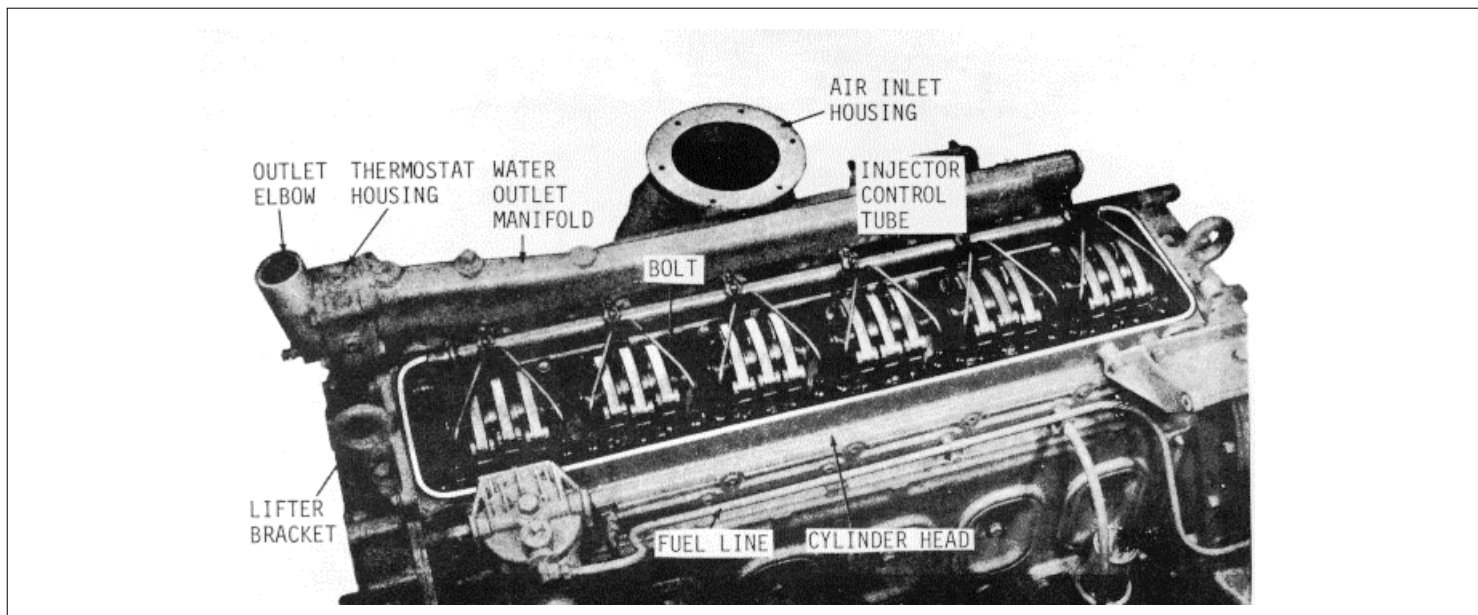
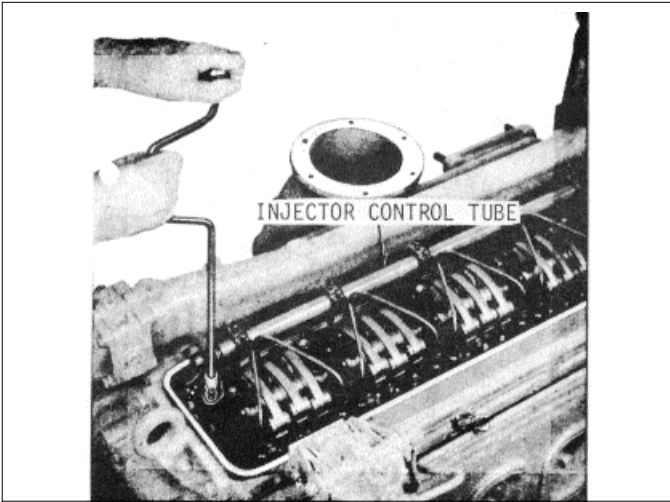

Fig. 2
Fig. 6
- (1) Affix a new gasket to each end of the cylinder block, using a non-hardening gasket cement. Also apply an even coating of gasket cement to the outer surface of each gasket (the surface next to the end plate).
- (2) Use guide studs J 1927-01 as shown in Fig. 2 to set the front end plate next to the cylinder block and install the bolts and lock washers. Do not tighten the bolts at this time. Wipe the excess gasket cement from the bores in the end plate and the cylinder block.
Due to the various optional and accessory equipment used, only the general steps for removal of the cylinder head are covered. If the engine is equipped with accessories that affect cylinder head removal, note the position of each before disconnecting or removing them to ensure correct re-installation. Then refer to Fig. 2 and remove the cylinder head as follows:
- (1) Drain the cooling system.
- (2) Disconnect the exhaust piping at the exhaust manifold.
- (3) Remove the air cleaners, or air silencer, and the air inlet housing.
- (4) Remove the exhaust manifold.
- (5) Disconnect the fuel lines at the cylinder head and remove the fuel filter (Fig. 2).
- (6) Remove the thermostat housing assembly.
- (7) Remove the water manifold.
- (8) Clean and remove the valve rocker cover and the governor cover.
- (9) Disconnect the fuel rod from the injector control tube lever and the governor. Remove the fuel rod.
- (10) Remove the injector control tube (Fig. 6) and brackets as an assembly.
- (11) If the cylinder head is to be disassembled for reconditioning of the exhaust valves and valve seat inserts or for a complete overhaul, remove the fuel pipes and injectors at this time. Refer to SM6-5-33.0 for removal of the injectors.
- (12) Loosen (three or four turns) the two bolts directly below each lifter bracket which attach the balance weight cover and flywheel housing to the front and rear end plates. Otherwise, the threaded ends of the bolts may interfere with removal of the cylinder head.
- (13) Remove the two bolts which secure the front lifter bracket to the balance weight cover and the two bolts attaching the rear lifter bracket to the flywheel housing.
- (14) Check the torque on the cylinder head bolts and stud nuts (if used), before removing the head. Then remove the bolts and nuts and, using lifting hooks and a chain hoist, lift the cylinder head from the cylinder block. Checking the torque before removing the head bolts and examining the condition of the compression gaskets and seals after the head is removed may reveal the causes of any cylinder head problems.